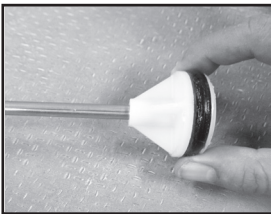

**Figure 1**
1. Inspect gasket. If worn or damaged, remove and replace. (See Figure 1)